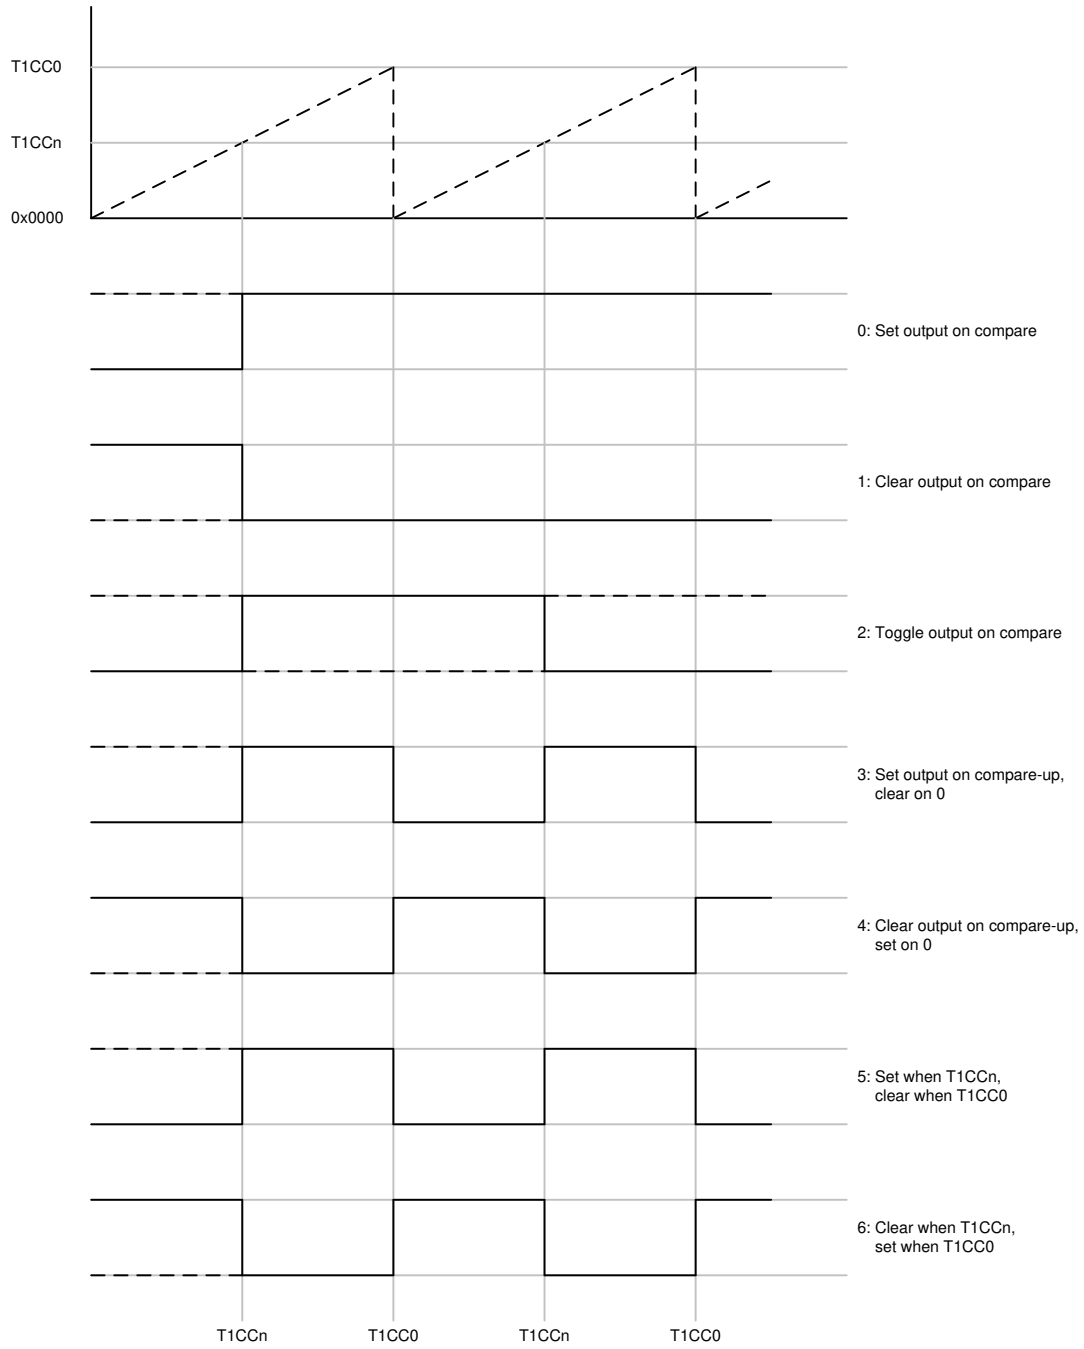
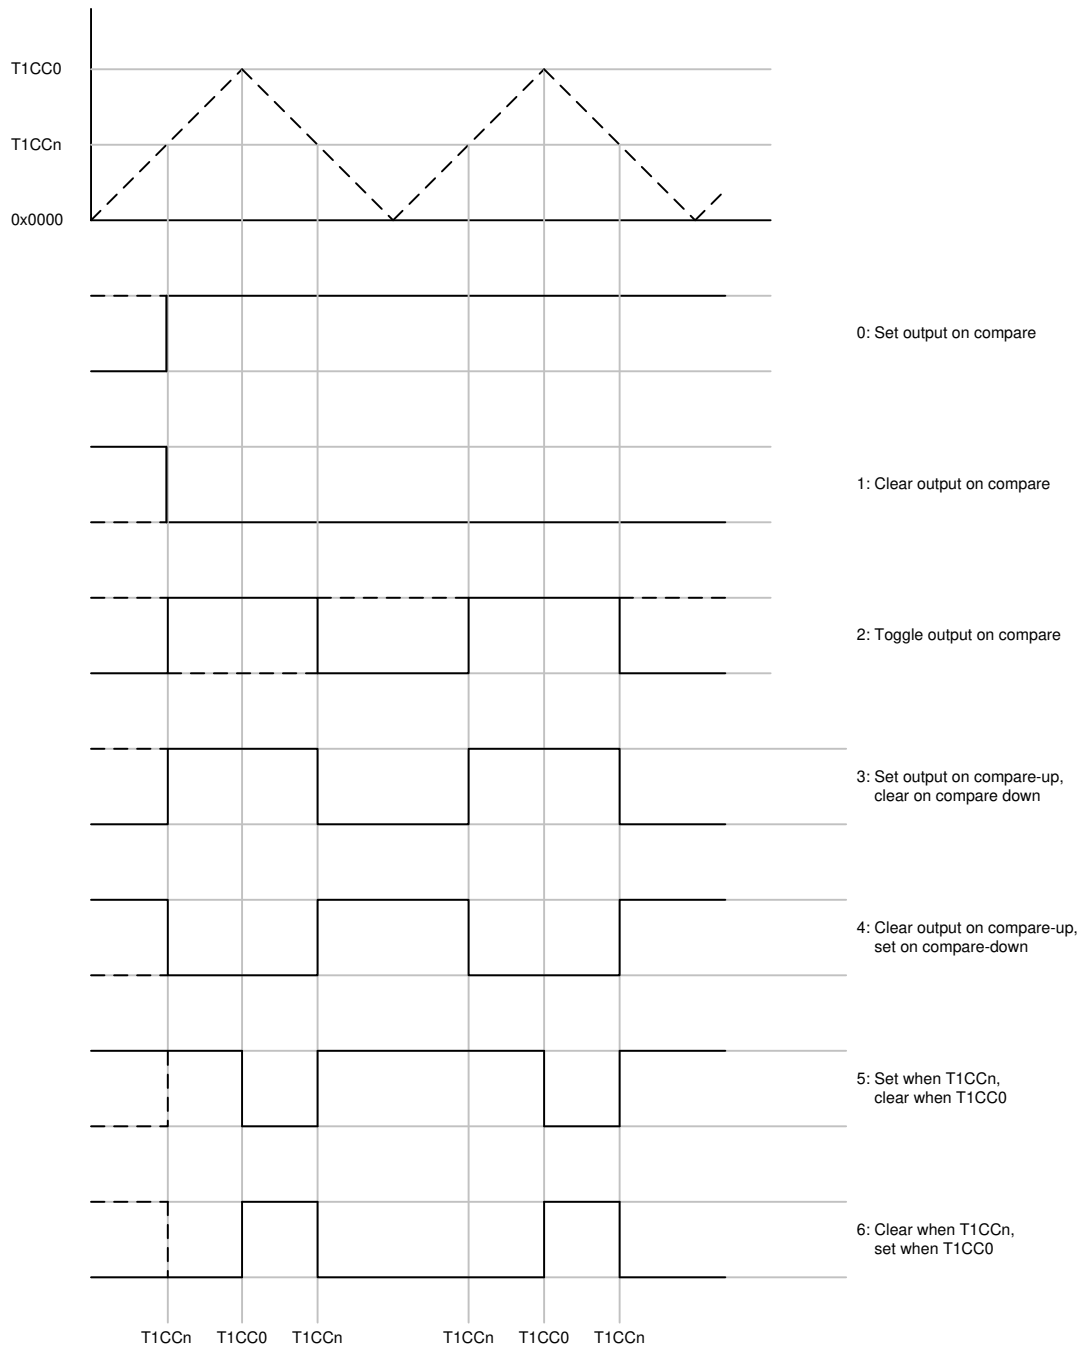

Figure 33: Output Compare Modes, Timer Modulo Mode
Figure 34: Output Modes, Timer Up/Down Mode
Examples of output compare modes in various timer modes are given in Figure 32, Figure 33, and Figure 34.
**Edge-aligned:** PWM output signals can be generated using the timer modulo mode and channels 1 and 2 in output compare mode 5 or 6 (defined by `T1CCTLn.CMP` bits, where *n* is 1 or 2) as shown in Figure 33. The period of the PWM signal is determined by the setting in `T1CC0` and the duty cycle is determined by `T1CCn`.
For both modulo mode and free-running mode it is also possible to use compare mode 3 or 4 to generate a PWM output signal (see Figure 32 and Figure 33).
or 4 (defined by  $T1CCTLn.CMP$  bits, where  $n$  is 1 or 2) is selected depending on required polarity of the PWM signal (see Figure 34). The period of the PWM signal is determined by  $T1CC0$  and the duty cycle for the channel output is determined by  $T1CCn$  ( $n = 1$  or  $2$ ).